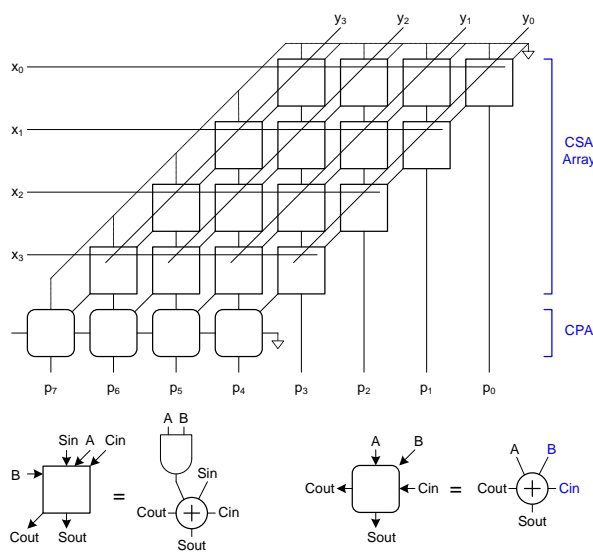

Fig. 10
- (j) If carry generation is the slowest path in the CSA cell in Fig. 10. Identify the critical path of this multiplier. (1%)